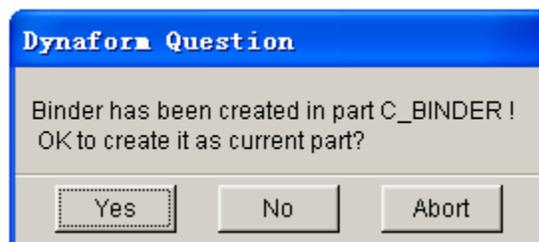

Figure 6.2.4 Dynaform Question dialog box
4. If a binder has already been created in the C\_BINDER part, a DYNAFORM QUESTION dialog box as illustrated in Figure 6.2.4 is displayed.